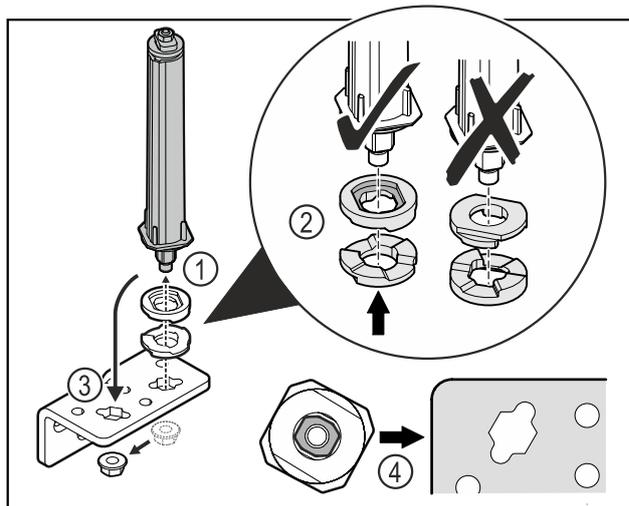

Fig. 39
- ▶ Loosen the nut and remove the door closing system Fig. 39 (1).
- ▶ Observe the correct alignment of the height adjustment washers Fig. 39 (2).
- ▶ Put the door closing system in the hinge and fix in place with the nut Fig. 39 (3).
- ▶ Observe the correct alignment of the door closing system when doing so Fig. 39 (4).